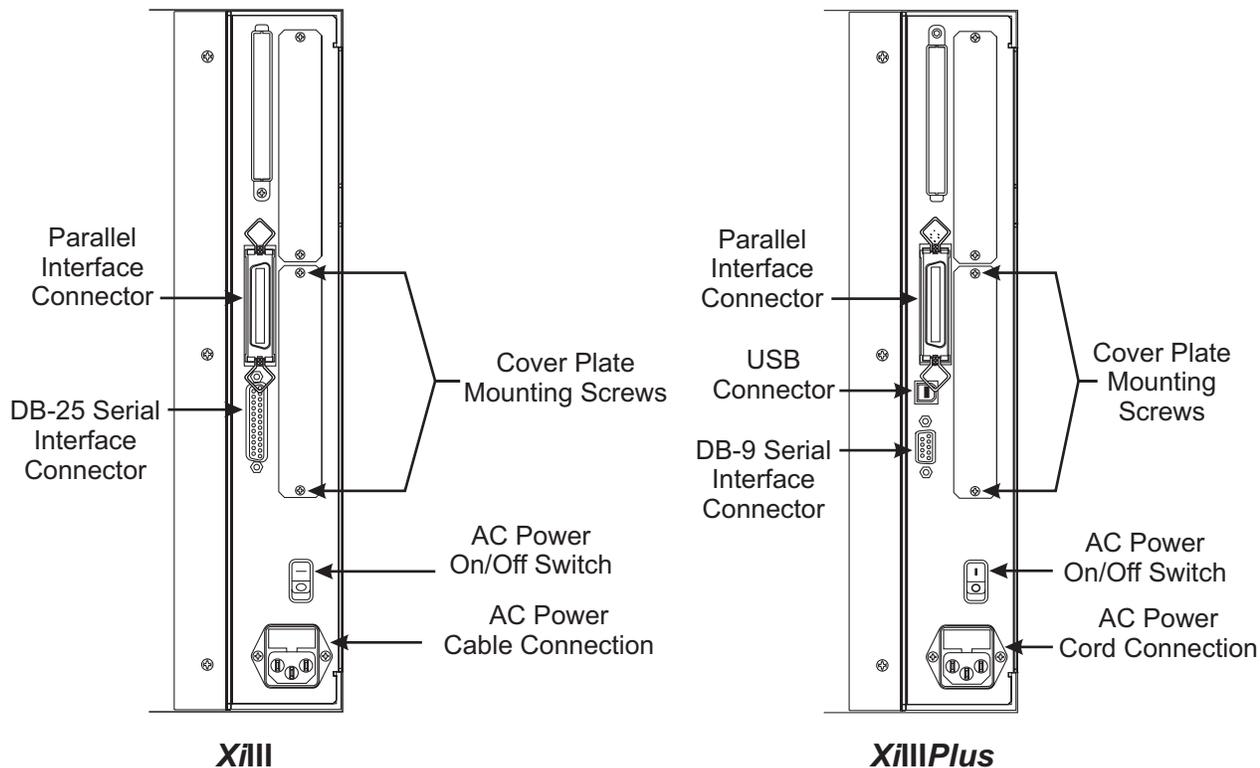

Figure 6-16. Cover Plate Rear View
1. RRP No. 1 on page 4-13. Turn the printer power Off (O) and disconnect the AC power cord. Disconnect any data cables.
3. Refer to Figure 6-16. At the rear of the printer, remove the two screws and the blank cover plate or an existing optional interface board positioned next to the main RS-232 and parallel interface connectors.